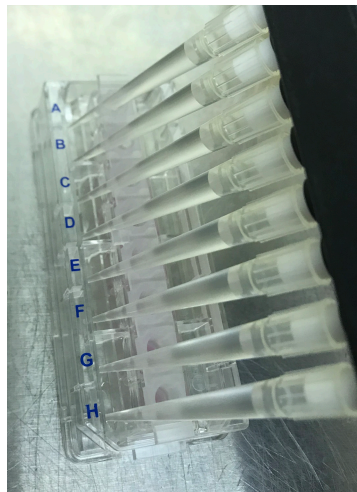

Figure 2. An 8-channel pipettor is used to load the plate moats on either side of the row of wells.
2. Add sterile water or PBS to the moat around the cell culture wells (Figure 2).